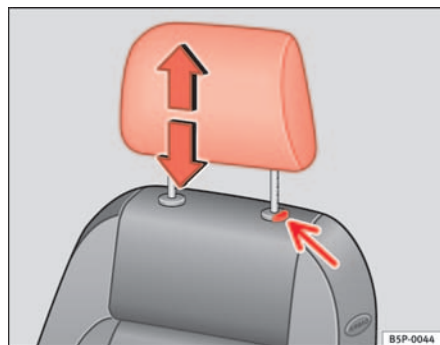

Fig. 92 Adjusting and removing the headrests
- Press the button ⇒ fig. 92 (arrow).